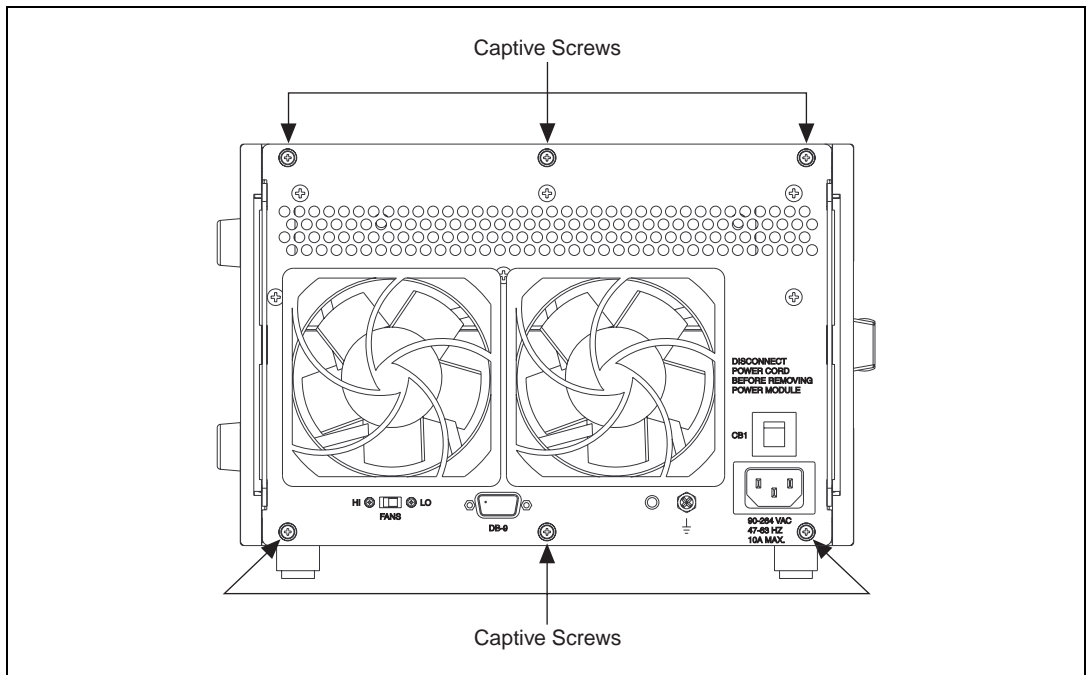

Figure 2. Captive Screws Holding the Power Supply Module
3. Loosen the six captive screws in the back of the chassis, as shown in Figure 2.